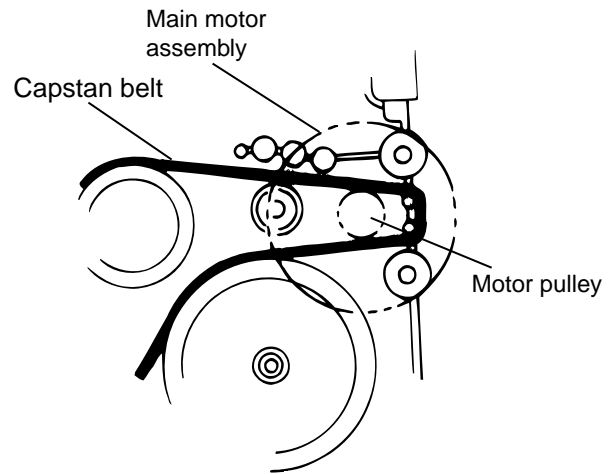

Fig. 5
1. Remove the two screws **B** retaining capstan motor assembly. (See Fig. 5)